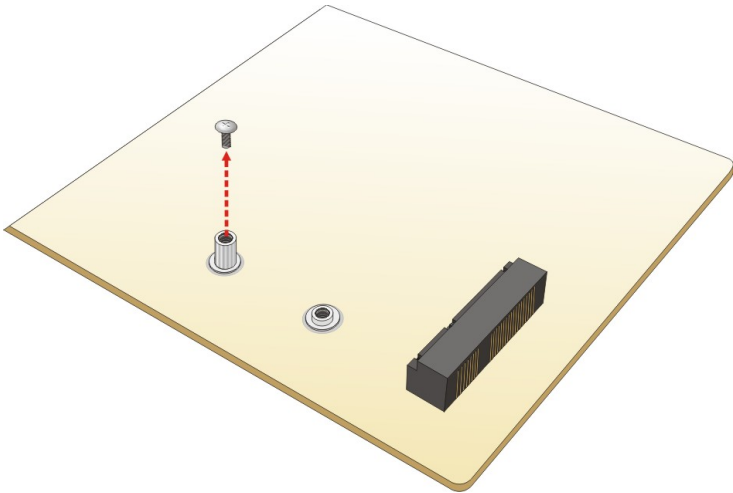

Figure 4-2: Removing the Retention Screw
- Step 2:** Remove the retention screw as shown in **Figure 4-2**.